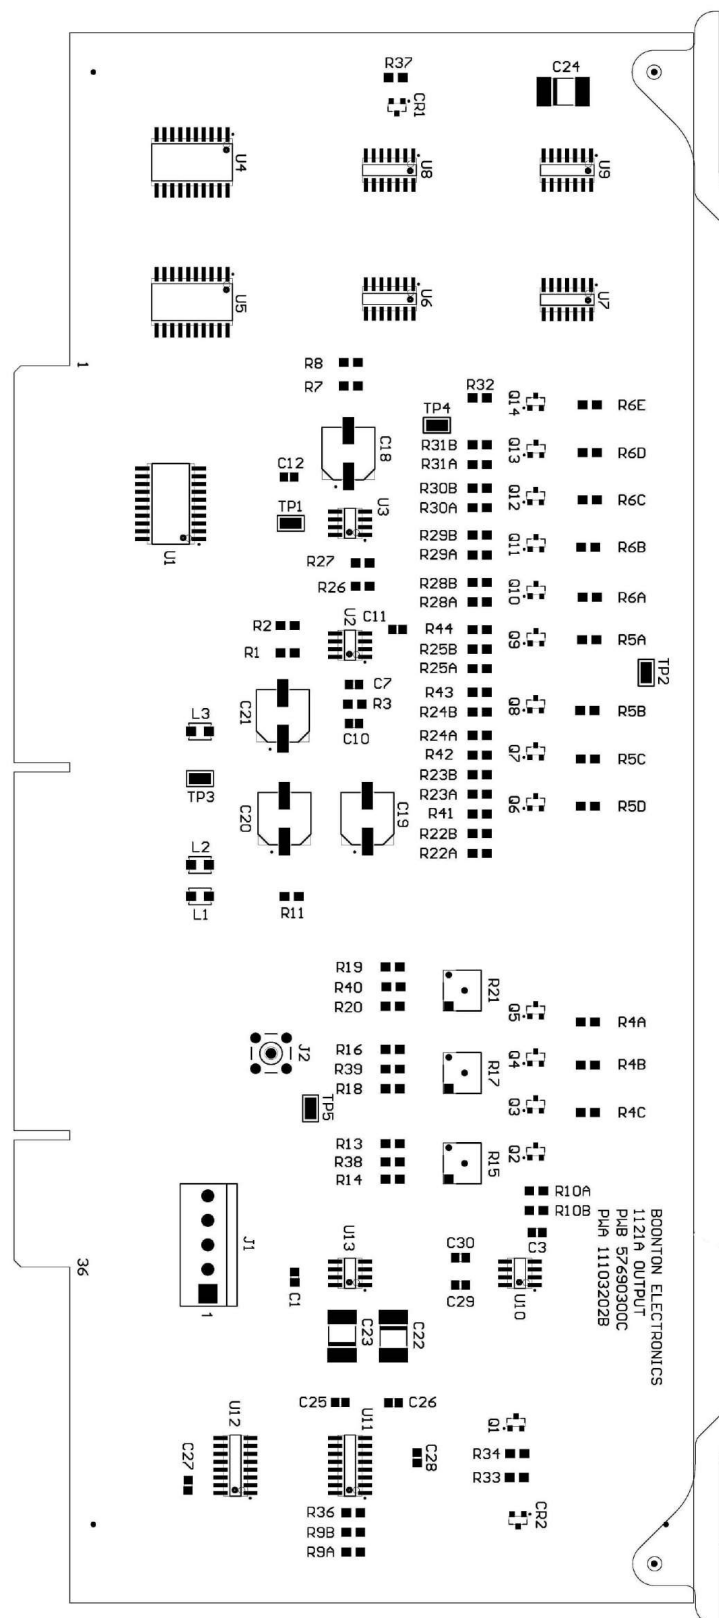

Figure 6-10. PWA '1121A' Output (A7)
**11103202A PWA OUTPUT 1121A (A7) (Figure 6-10)**